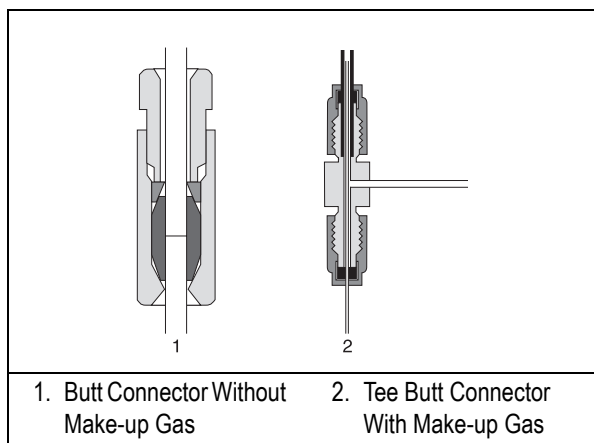

Figure 15-3. Butt Connectors
Figure 15-3 shows butt connectors for different applications.
- Figure 15-3 part 1 shows a butt connector with a single Vespel[®] or graphite ferrule used to connect a pre-column to an analytical column with the same diameter.
- Figure 15-3 part 2 shows a butt connector with make-up lines used to connect a pre-column, normally wide-bore, to an analytical column with a smaller diameter. The make-up line supplies a make-up gas to effectively flush the connection.